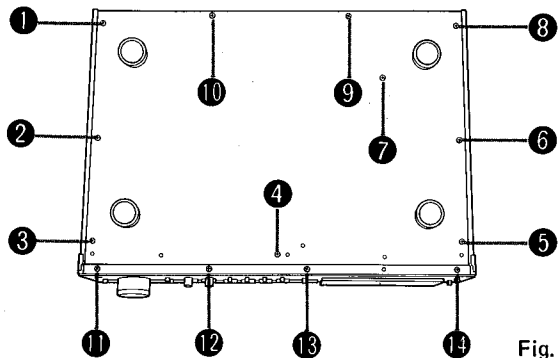
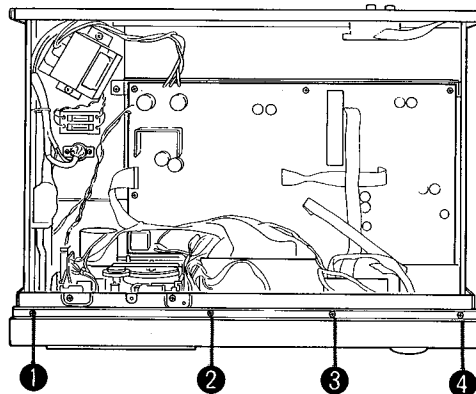

Fig. 2
Fig. 3
Remove the screws ① to ⑩ in Fig. 2 and then remove the cabinet bottom.
5. Remove the screws ⑪ to ⑭ in Fig. 2 and ① to ④ in Fig. 3 and then remove the front panel assembly.